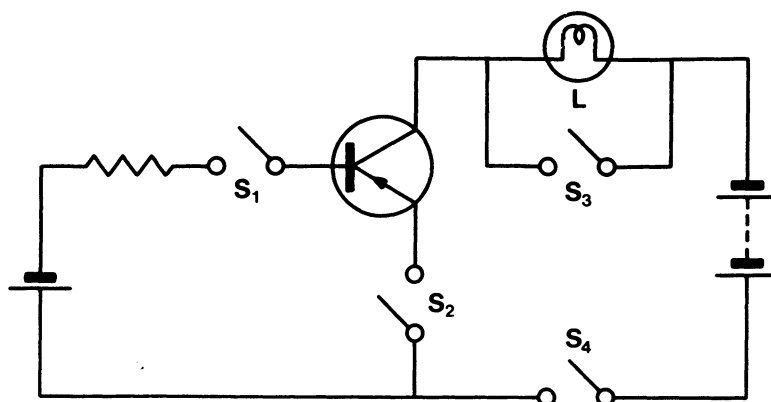

FIG. 3.66
49. In the circuit shown below (Fig. 3.66), which switches must be closed for the lamp L to light up brightly?